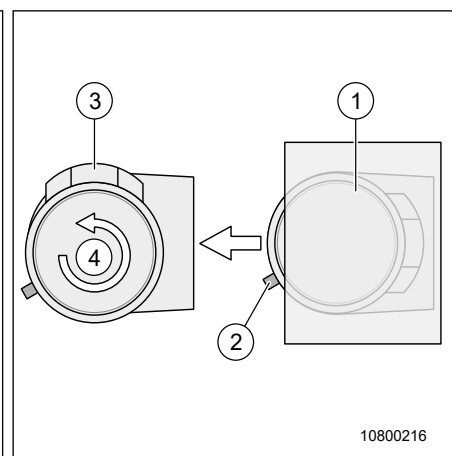

Fig. 69 Toilet locking point
1. Unlock the toilet by lifting the locking lever (Fig. 69, Pos. 2).
2. Pull the toilet out of the side wall (Fig. 69, Pos. 1) to locking point 2 (Fig. 69, Pos. 3).
3. Turn the toilet seat (Fig. 69, Pos. 4) to the front.
- Locking point 1: Storage position for showering / washing (Fig. 69, Pos. 1).
- Locking point 2: Position for removing the cassette and for using the toilet (Fig. 69, Pos. 3).
- When travelling, swivel in the toilet (Fig. 69, Pos. 1).
- Depending on the vehicle, the toilet seat must be moved to position (Fig. 67, Pos. 2) or (Fig. 69, Pos. 3) otherwise damage may be caused to the toilet or the cassette during removal.
2. Depending on the vehicle, put the toilet into the removal position (Fig. 67, Pos. 2) or (Fig. 69, Pos. 3).